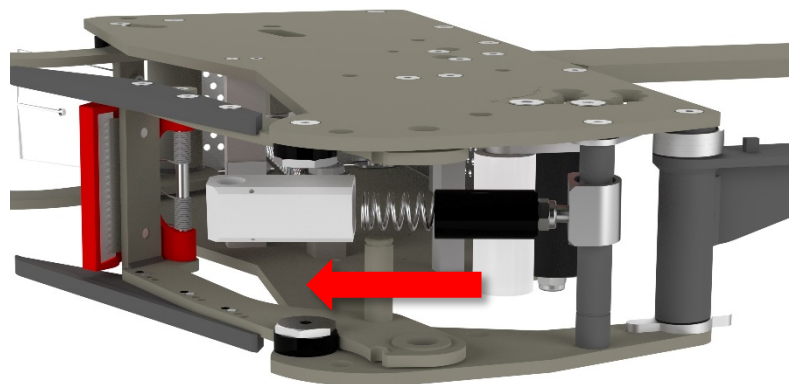

Figure 10-8
3. Remove the spring barrel from overlapping position as shown in Figure 10-8. Remove any broken particle from the spring guide. Install new compression spring into the captive position.